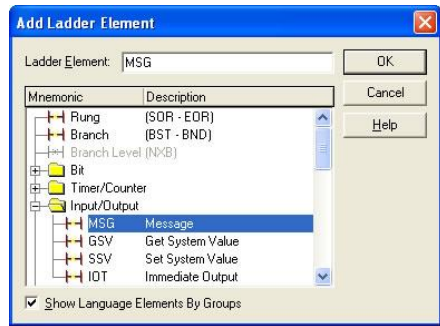

Figure 51: Adding a MSG Instruction
- Select the "MSG" instruction in the Input/Output folder. Refer to Figure 51.